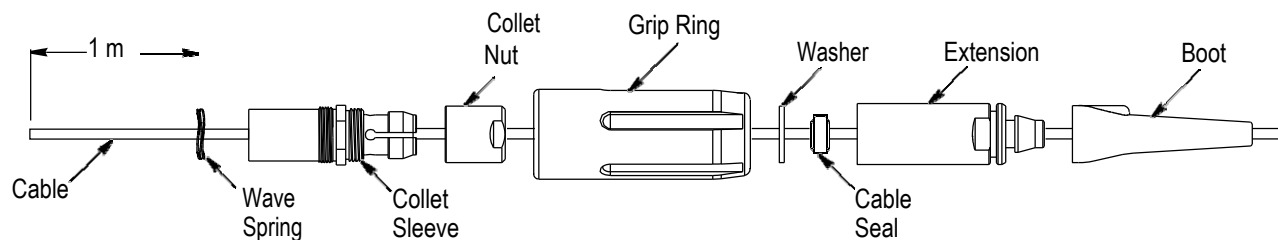

Figure 2
- Slide the components shown in Figure 2 onto the cable allowing 1 m at the end of the cable for stripping the cable. Make sure to orient each component as shown.